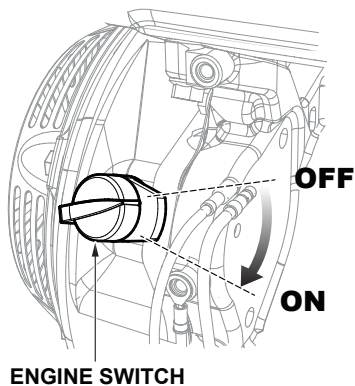

Figure 18. Engine ON/OFF Switch (ON Position)
6. Place the engine ON/OFF switch (Figure 18) in the **ON** position.